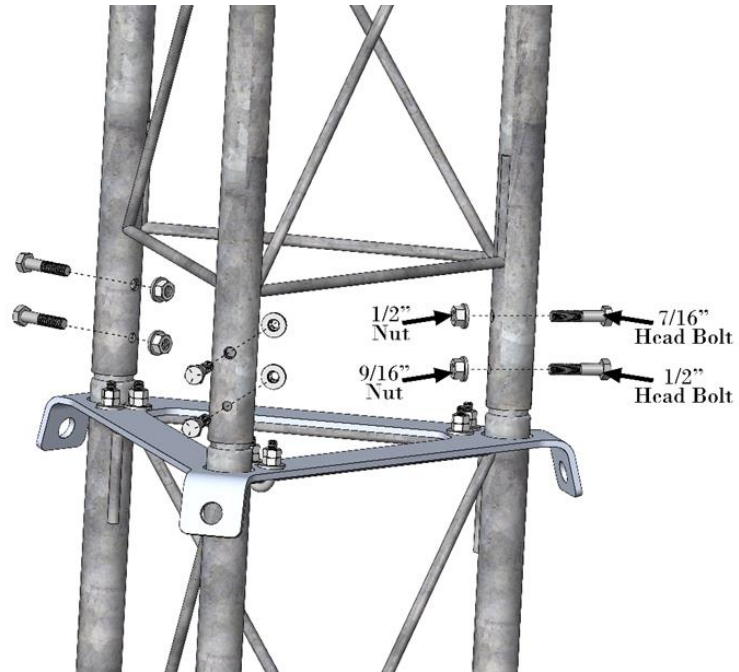

Figure 115 40' Kuva Tower bolt locations
4. Disconnect the 40' Kuva Tower at the midpoint by removing (3) 7/16" head bolt and (3) 1/2" Nuts. Then remove (3) 1/2" head bolt and (3) 9/16" nuts as per Figure 115.